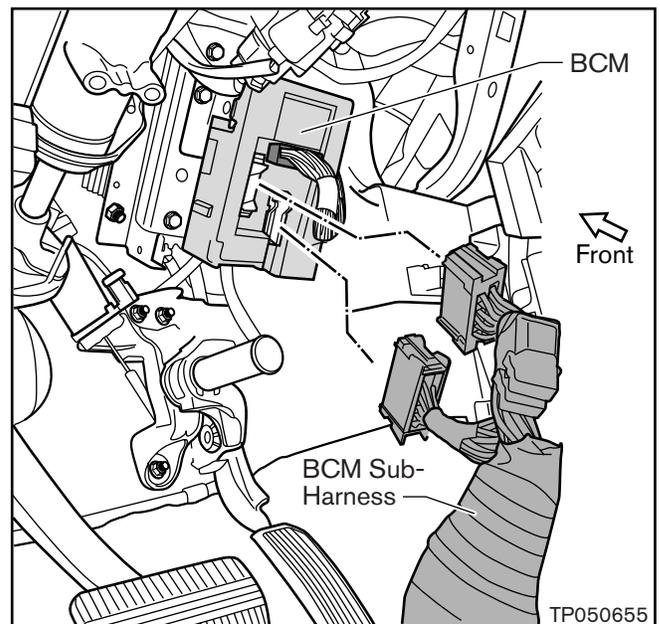

Figure 7
8. Connect the fuse end of the BCM Sub-Harness to the BCM as shown in Figure 7.